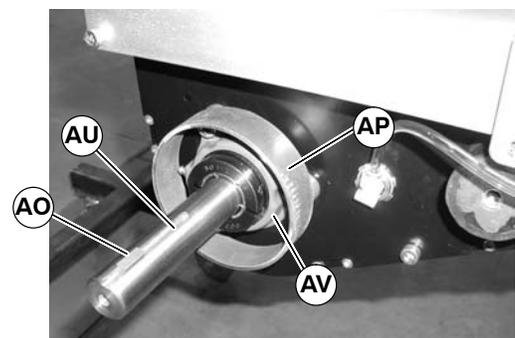
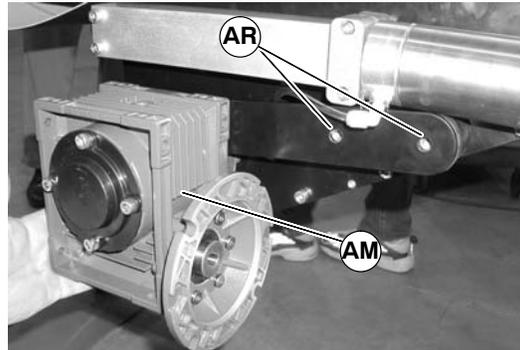

Figure 19
Figure 21
3. Install key (AO of Figure 19) on drive shaft(AU). Install cover (AP) over bearing housing (AV)
5. Slide gearmotor (AM of Figure 21) on to drive shaft (AU of Figure 19). Tighten mounting screws (AR) to 200 in-lbs (22.5 N-m).